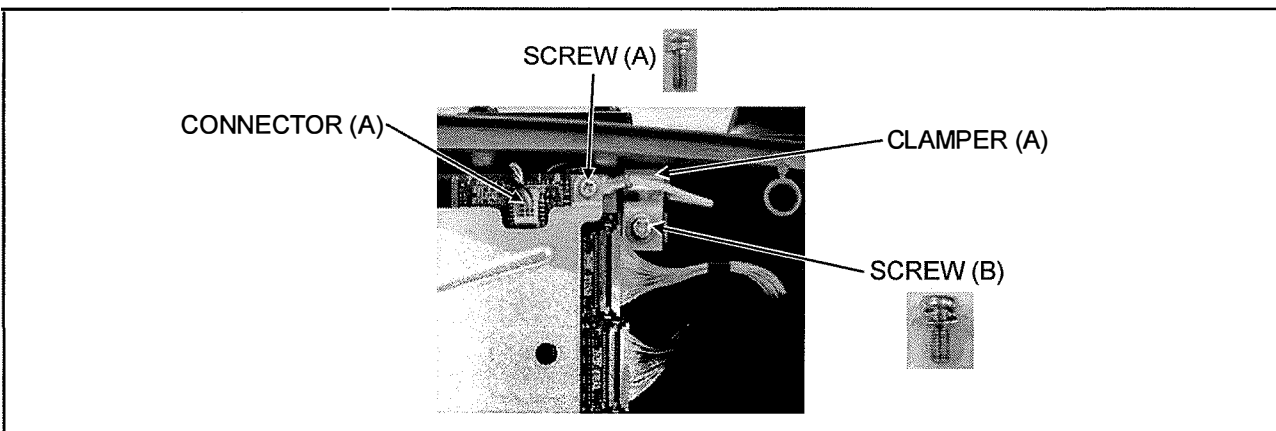

Figure 10-1
2. Unscrew a screw (A) as shown in figure 10-1.
3. Disconnect a connector (A) as shown in figure 10-1.
4. Unscrew a screw (B) and remove the wires from CLAMPER (A) as shown in figure 10-1.